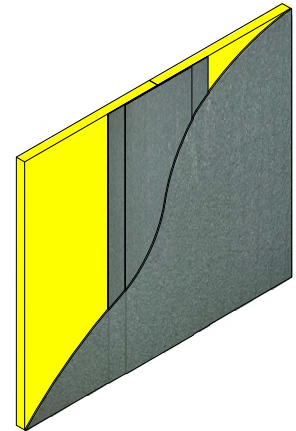

Figure 4
4. Mix and apply Senershield-R/-RS/-VB per the product bulletin instructions over substrate. (See Figure 4)